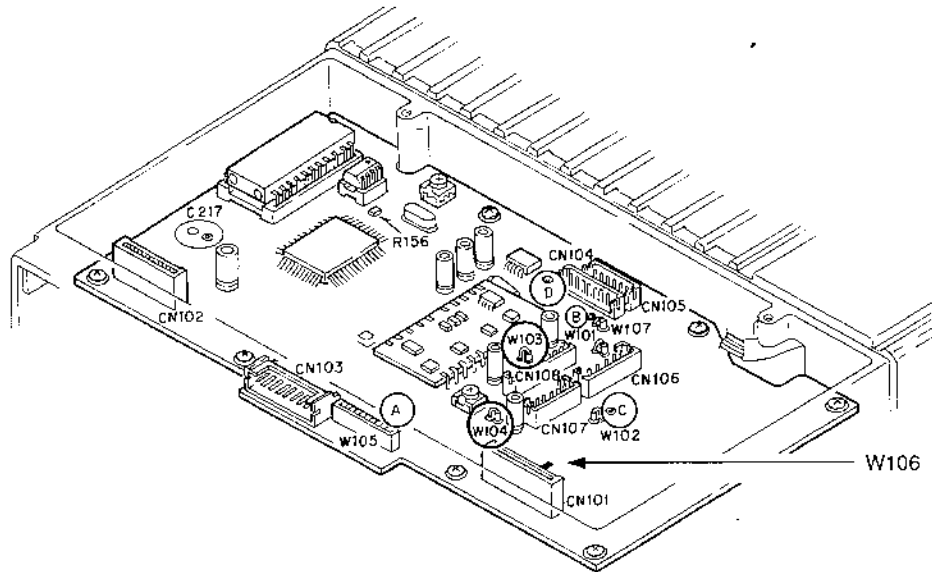

Fig. 1-5 Control unit (X57- A/4)
4. Install the KRK-4DB A/2 on radio 1 using the four flat-headed screws (N32-3006-46) (1).
5. Short W106 on the control unit by soldering. (Fig. 1-5)